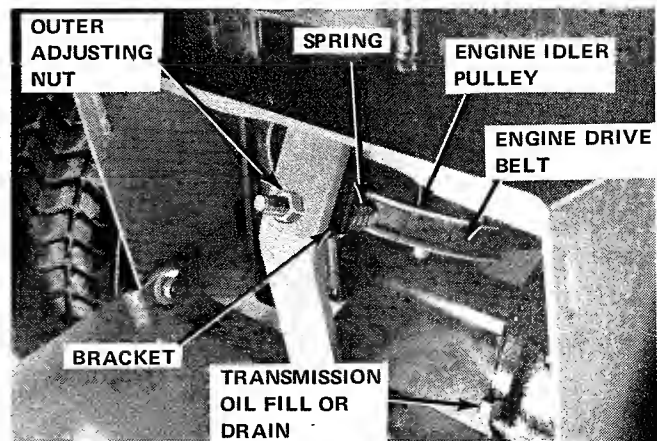

Figure 20.
3. See Figure 20. Open rear cover of vehicle and pull mower drive belt from drive pulley. Slowly guide belt through vehicle and remove it through rear cover opening.
1. See Figure 20. Open rear cover of vehicle and push engine idler pulley in against spring until engine drive belt can be slid from pulley. If spring does not allow sufficient compression to allow belt removal, loosen outer adjusting nut a few turns.
3. Working through rear cover opening, install new transmission drive belt on engine drive pulley. Carefully work belt over outside transmission drive pulleys and depress engine idler pulley (Figure 20) enough to slip new engine drive belt in place. Adjust drive belt as instructed in ADJUSTMENTS section of this manual.